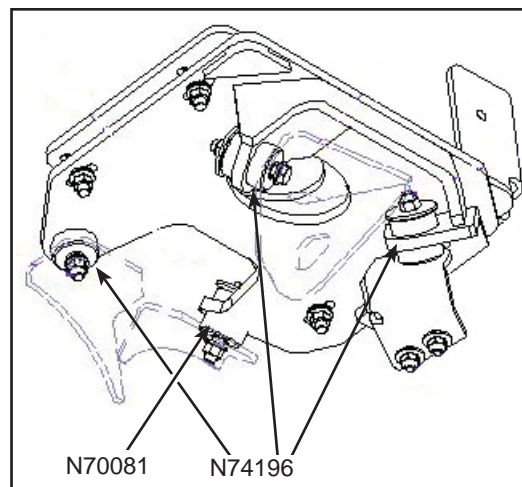

Figure 3 - Location of New A/C Compressor Rubber Mounts
- 1.6. Install the new N74196 (3x) and N70081(1x) rubber mounts on the A/C compressor support. See Figure 3.